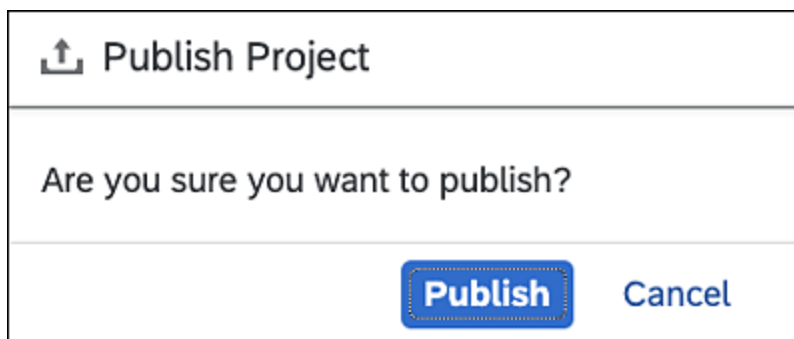

Figure 18.67 Publishing Your Action
- **Publish** (see Figure 18.67) makes your action available to be added in your process using the **Browse** action.